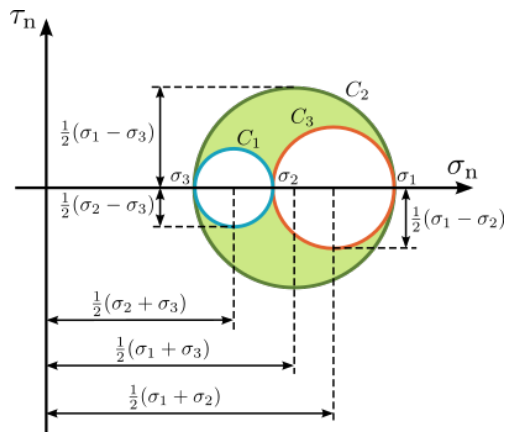

Fig. 1: Schematic representation of the Mohr's circle. Source: Wikipedia.
**Theory:** Mohr's circle of stresses is a two-dimensional graphical representation of the stress tensor and is named after the German engineer *Christian Otto Mohr*. Any point on the circle denotes the stress state on a rotated coordinate system. The Mohr's circle is plotted with the normal stresses along the abscissa and the shear stresses along the ordinate (see fig. 1 below).